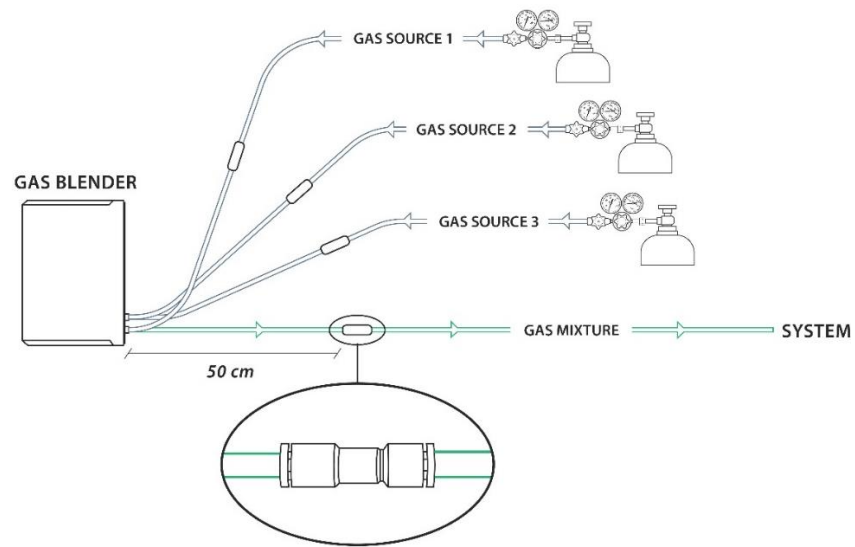

Figure 3-10
5. **Gas Blender Outlet** - Another One Touch valve must be positioned at a distance of 50 cm from the Gas Blender outlet to secure a proper working of the instrument. Take the 50 cm long tube and connect one end with the valve, then connect the other end to your system, as shown in the pictures below (Figure 3-10).